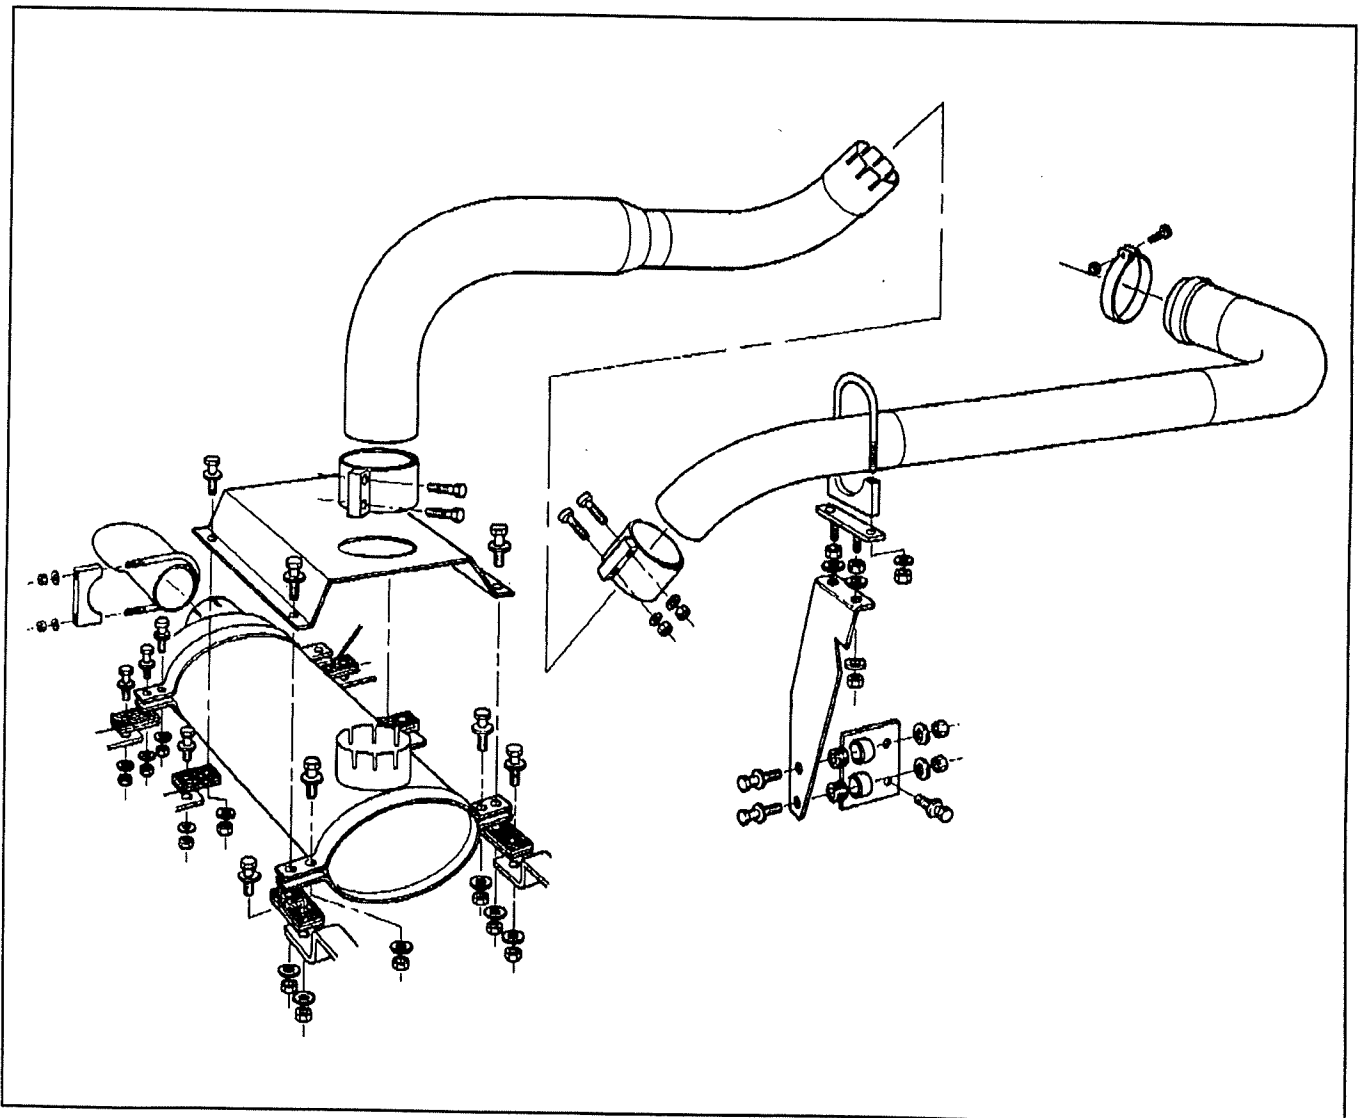

FIG. 1 - Exhaust system
1. Remove bolts and clamp which secure the exhaust pipe to the muffler (see fig. 1).
3. Remove the fasteners holding the six (6) rubber mounts to the engine cradle bracket, then remove the muffler from under the vehicle.
4. Remove parts which are fixed to the muffler: U-clamp, tail pipe, heat shield, two (2) muffler retaining clamps, then six (6) rubber mounts. Inspect the parts for damage and replace if necessary; install the parts on the new muffler.